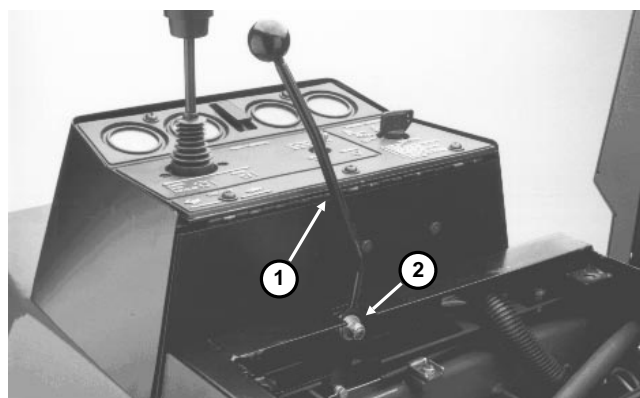

Figure 6
1. Push the throttle lever forward until it stops against the slot in the seat base (Fig. 6).
5. Tighten locknut on throttle lever pivot to 40 - 55 in-lb (Fig. 6). The maximum force required to operate the throttle lever should be 20 lb.